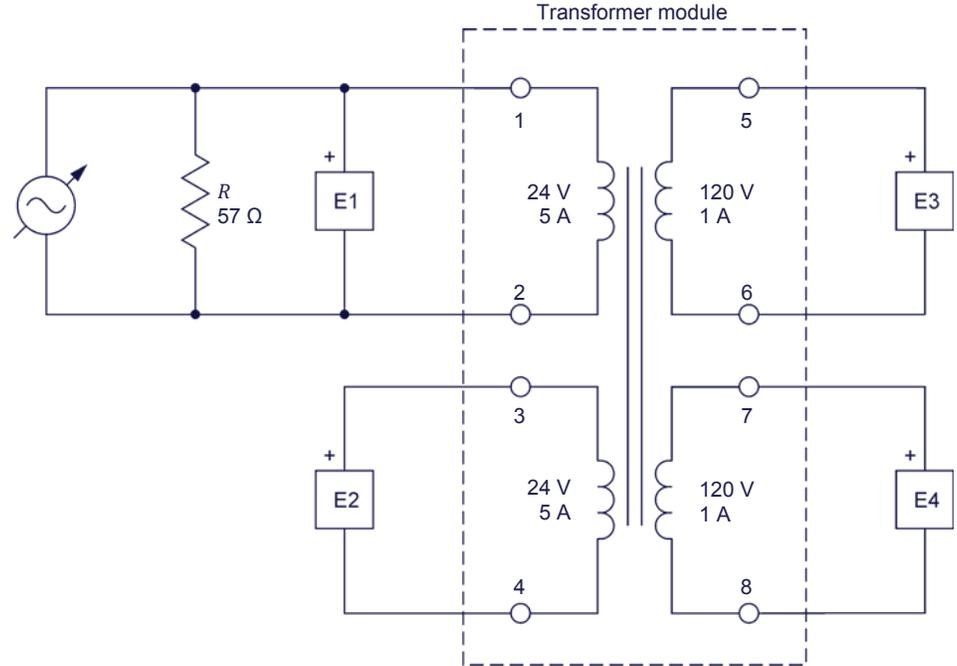

Figure 15. Circuit for determining transformer winding polarity using an oscilloscope.
7. Connect the equipment as shown in Figure 15.
The resistive load in the circuit of Figure 15 is used to improve the appearance of the voltage waveforms. As the resistive load is connected in parallel to the ac power source, it has no effect on the measured voltages.